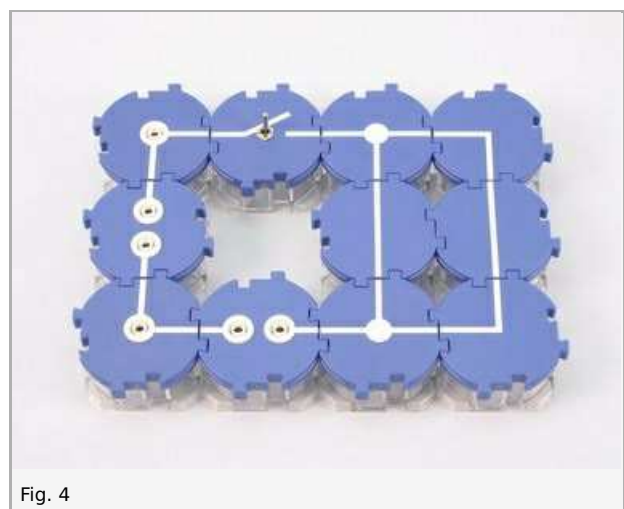

Fig. 4
- Open the switch and replace the filament lamps with a connector module (Fig. 4); change the ammeter to the 3 A– measurement range.